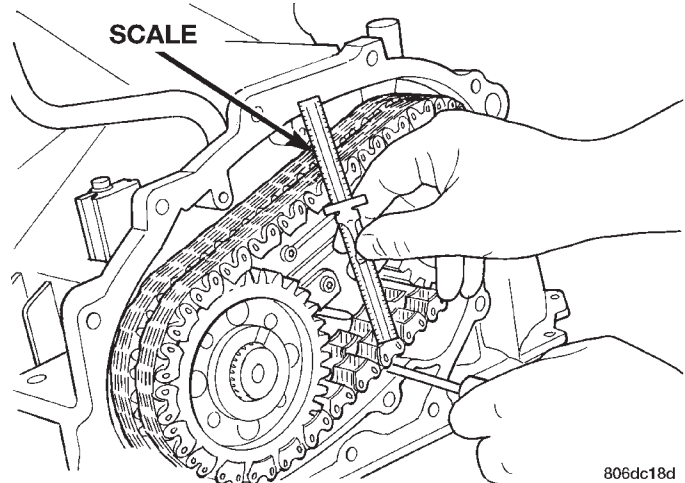

Fig. 304 Chains Measurement
(5) Pry the chains up at the center of the chain.
(6) Butt a scale against the snubber and place a second mark on the scale at the bottom of the chains (Fig. 304).